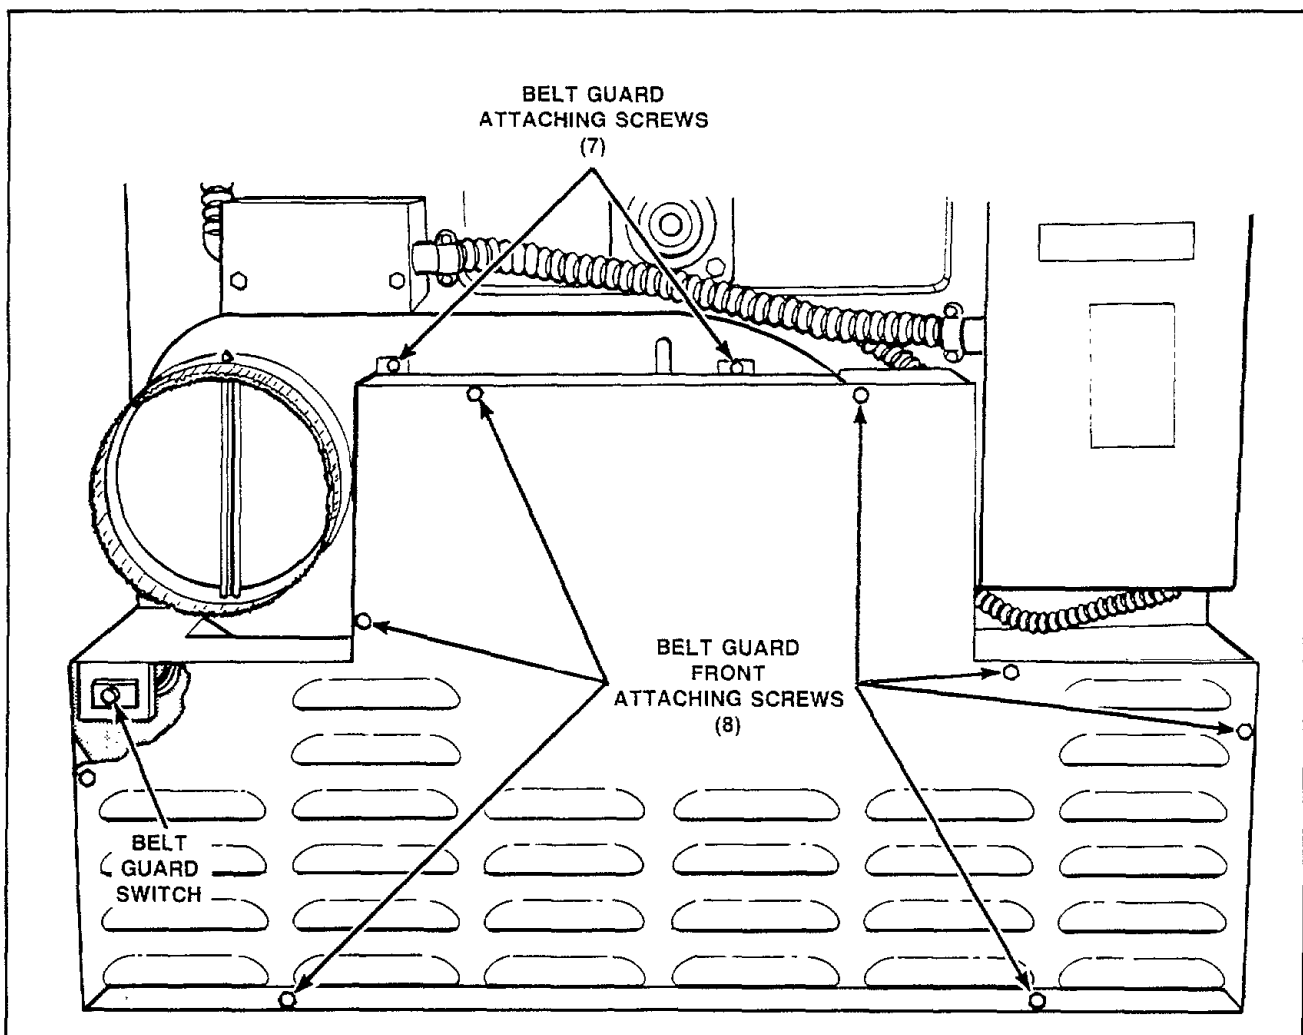

Figure 28
### 30. BELT GUARD AND BELT GUARD SWITCH (Figure 28)
- b. Remove screws holding belt guard front to belt guard, *Figure 28*.
- c. Remove belt guard front from belt guard, *Figure 28*.